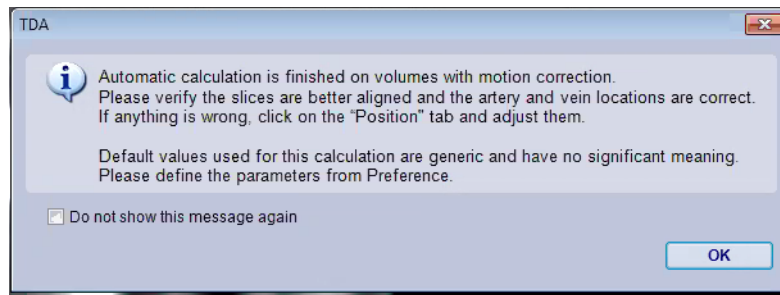

Figure 9-25 TDA Accuracy Message
5. In the viewer, a TDA message window opens. (Figure 9-25)
Note: You are obligated to define the parameter ranges that are used in this procedure. When first accessed, the user interface for setting these parameters contains generic default values having no significance. The default values are listed under "Brain TDA - Functional Map \(CT\)" on page A-27. You must acknowledge this by dismissing a warning message to this effect, Figure 9-25.